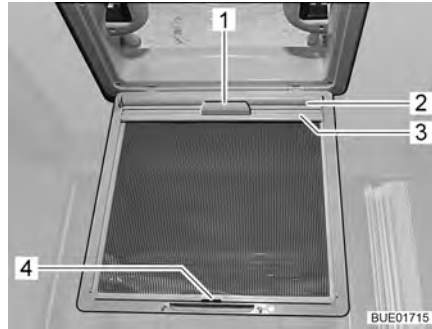

Fig. 26 Blind (skylight)
- Using the handle (Fig. 26,1), pull out the blind (Fig. 26,2) and hook the retainer (Fig. 26,3) into the hook (Fig. 26,4) on the insect screen.
- Release the retainer (Fig. 26,3) from the hook (Fig. 26,4) and, using the handle (Fig. 26,1), slowly return the blind (Fig. 26,2).